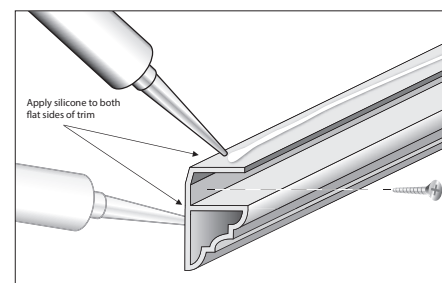

Fig.2
- Apply a 20mm bead of silicone to both flat edges of the coving and set in to the wall and ceiling (Fig.2). For added security, the coving can be supported with screws fitted 30cm apart across the length of the